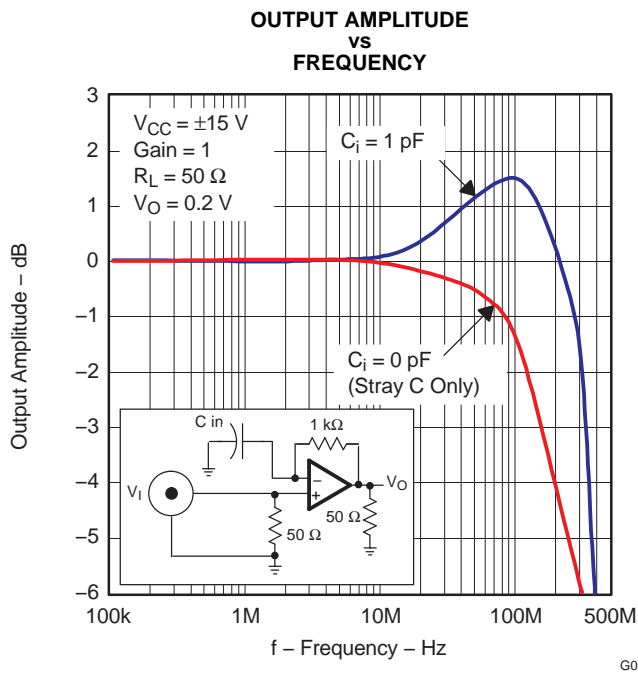
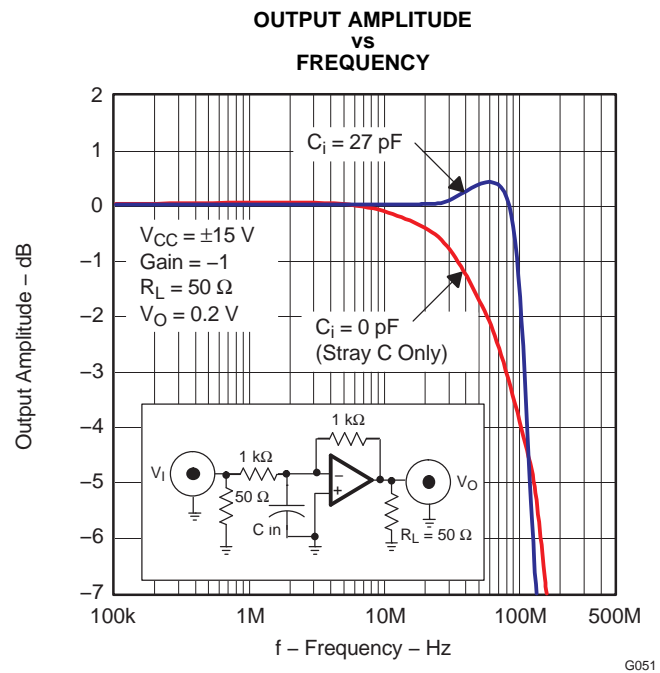

Figure 56.
Figure 57.
- Input stray capacitance—To minimize potential problems with amplifier oscillation, the capacitance at the inverting input of the amplifiers must be kept to a minimum. To do this, PCB trace runs to the inverting input must be as short as possible, the ground plane must be removed under any etch runs connected to the inverting input, and external components should be placed as close as possible to the inverting input. This is especially true in the noninverting configuration. An example of this can be seen in Figure 56, which shows what happens when a 1-pF capacitor is added to the inverting input terminal in the noninverting configuration. The bandwidth increases dramatically at the expense of peaking. This is because some of the error current is flowing through the stray capacitor instead of the inverting node of the amplifier. While the device is in the inverting mode, stray capacitance at the inverting input has a minimal effect. This is because the inverting node is at a virtual ground and the voltage does not fluctuate nearly as much as in the noninverting configuration. This can be seen in Figure 57, where a 27-pF capacitor adds only 0.5 dB of peaking. In general, as the gain of the system increases, the output peaking due to this capacitor decreases. While this can initially appear to be a faster and better system, overshoot and ringing are more likely to occur under fast transient conditions. So, proper analysis of adding a capacitor to the inverting input node should always be performed for stable operation.